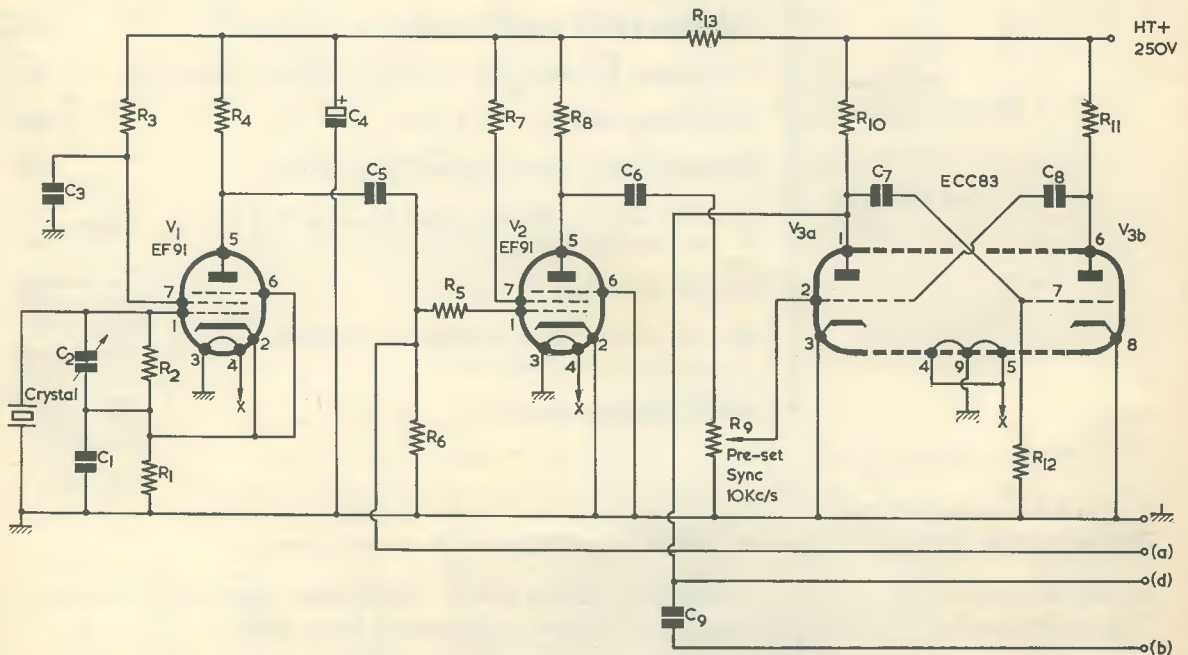

Fig. 1. The 100 kc/s sub-standard crystal oscillator, together with the buffer amplifier and 10 kc/s multivibrator
The sub-standard oscillator circuit (see Fig. 1) uses a crystal mounted in an evacuated envelope with a B7G base, this oscillating at 100 kc/s in a modified Colpitts oscillator circuit. Such a crystal is marketed by the Quartz Crystal Company, and is known as crystal unit type Q7/100. Provision is made for slight adjustment of the frequency of oscillation by means of C_2 .
* In the multivibrator circuits shown in Figs. 1 and 4, the sync level controls (R_9 and R_{23}) serve also as frequency controls, in that they vary the grid leak values of the associated triodes. In consequence, these controls may vary the mark/space ratio of the square wave. The circuit is, however, designed to give approximately 50:50 square waves when the controls are set to the position at which synchronising occurs.—EDITOR.